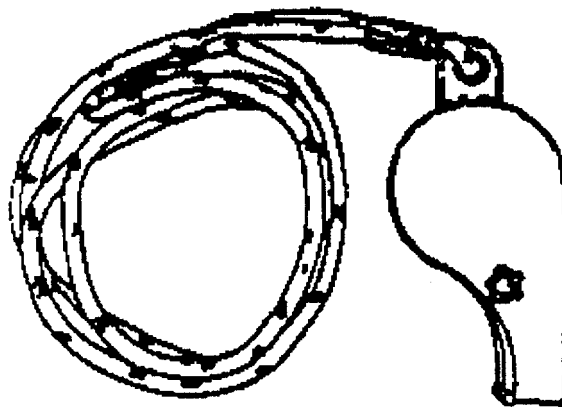

Figure 2-24. Whistle
- b. Whistle. The plastic ball whistle (See Figure 2-24) is a signaling device used for attracting the attention of rescue personnel. The whistle is intended for use by downed air crewmembers seeking attention of rescue personnel or to gather members of the crew and passengers together.